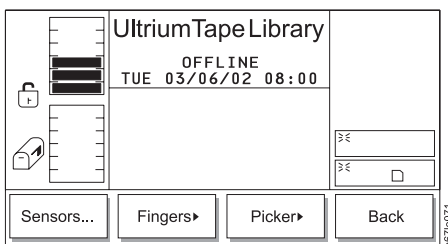

Figure 4-168. Diags Submenu
3. Press the button below the **Diags** softkey. The Diags Submenu displays (see Figure 4-168).